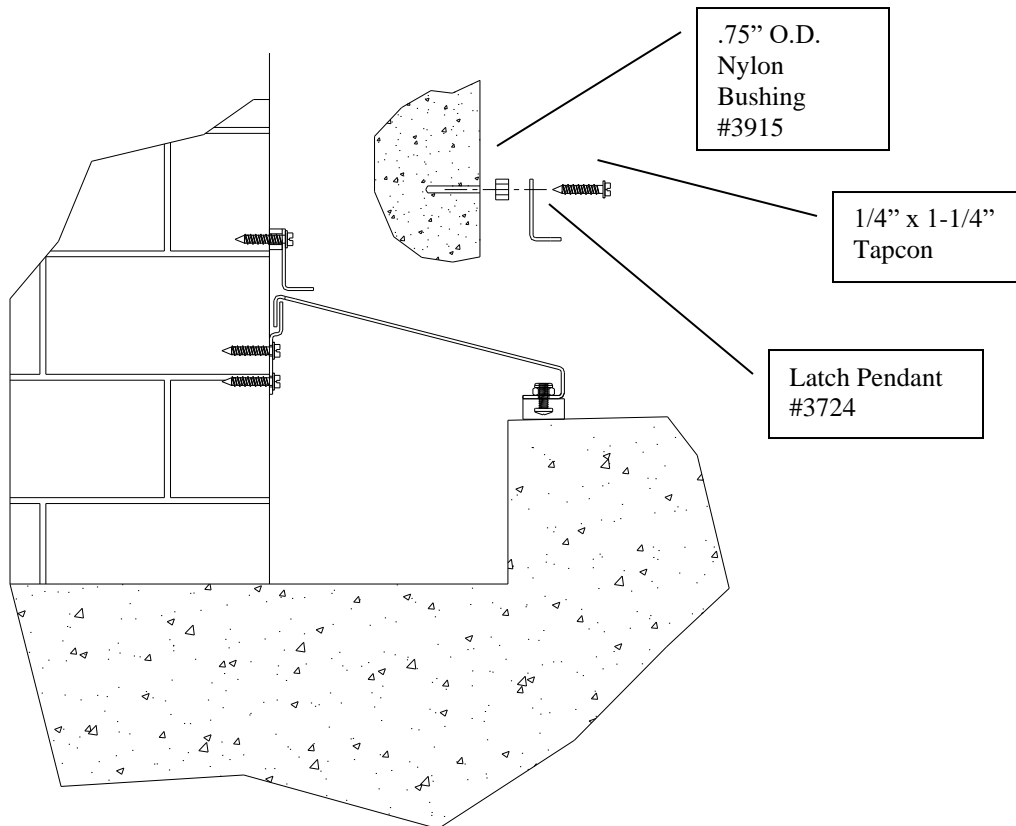

Figure 7.
- Using a 3/16" drill bit, drill (2) holes at least 1-1/4" deep through the marks made in Step 6.
- Attach the pendants to the wall using 1/4" x 1-1/4" hex head Tapcon screws (not supplied) through the mounting holes in the pendants. Tighten the fasteners until the pendants can be rotated by hand and stay in the unlocked position without being held. Do not over tighten. See figure 7.